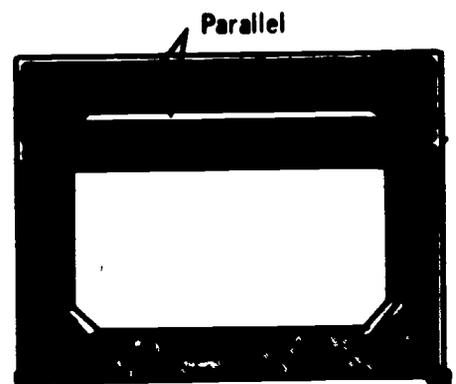

FIGURE 2
- E. Move top edge of parallel bar up and align with top edge of drawing media (Figure 2)